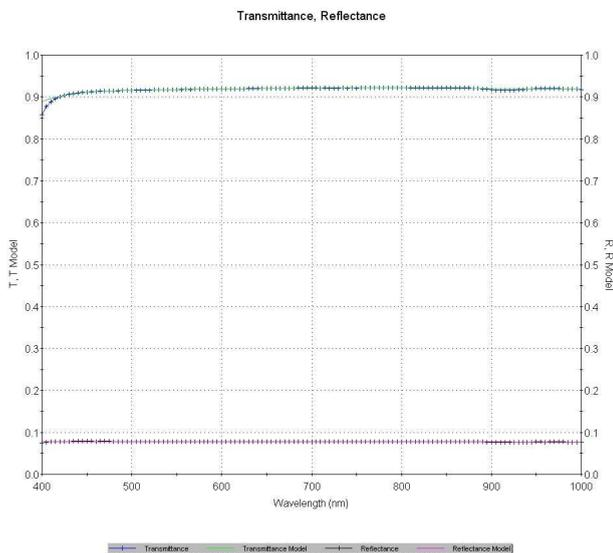
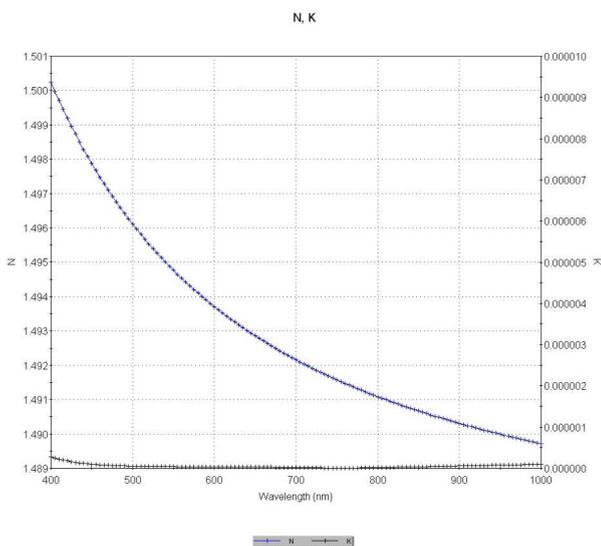

Figure 3. T & R for PC substrate. Measured in centre with concave face towards the beam. Model fit overlaid in red & green.
Figure 4. n & k for the PC substrate
In Figure 3. below we show a standard Polycarbonate (PC) lens which has been measured on an nkd-7000 at an incident angle of 10°. Overlaid on the measured transmittance and reflectance spectra is a model fit which is used to extract the complex refractive index of the material, n-ik. The results of this analysis are displayed in Figure 4. This data for the lens is added to the Pro-Optix™ materials database.